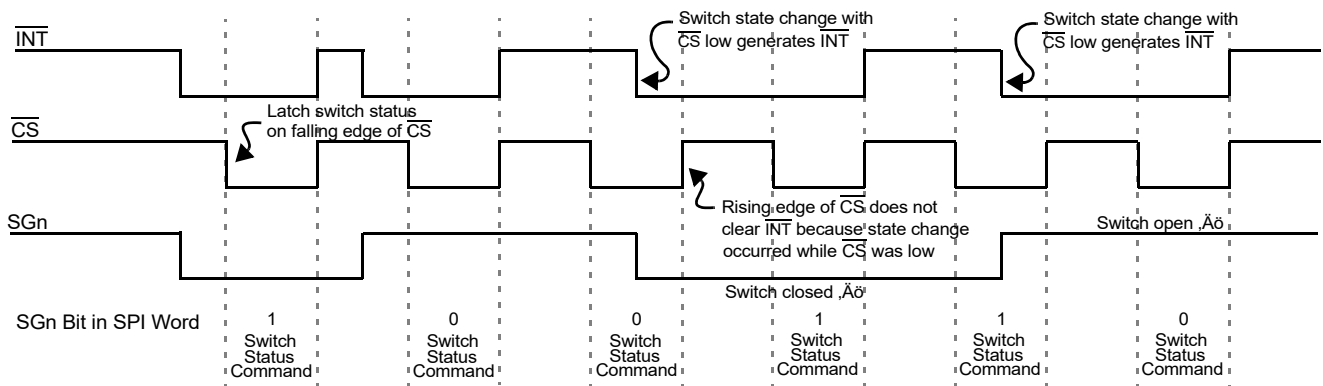

Figure 6. Normal Mode Interrupt Operation
2. $\overline{\text{INT}}$ pin is reset to logic [1], except when additional switch changes occur during $\overline{\text{CS}}$ low (see Figure 6, page 11).